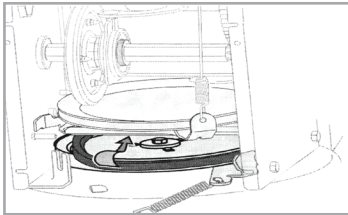

Fig.30
4. Slip the drive belt off the pulley and between friction wheel and friction wheel disc. See Figure 30.